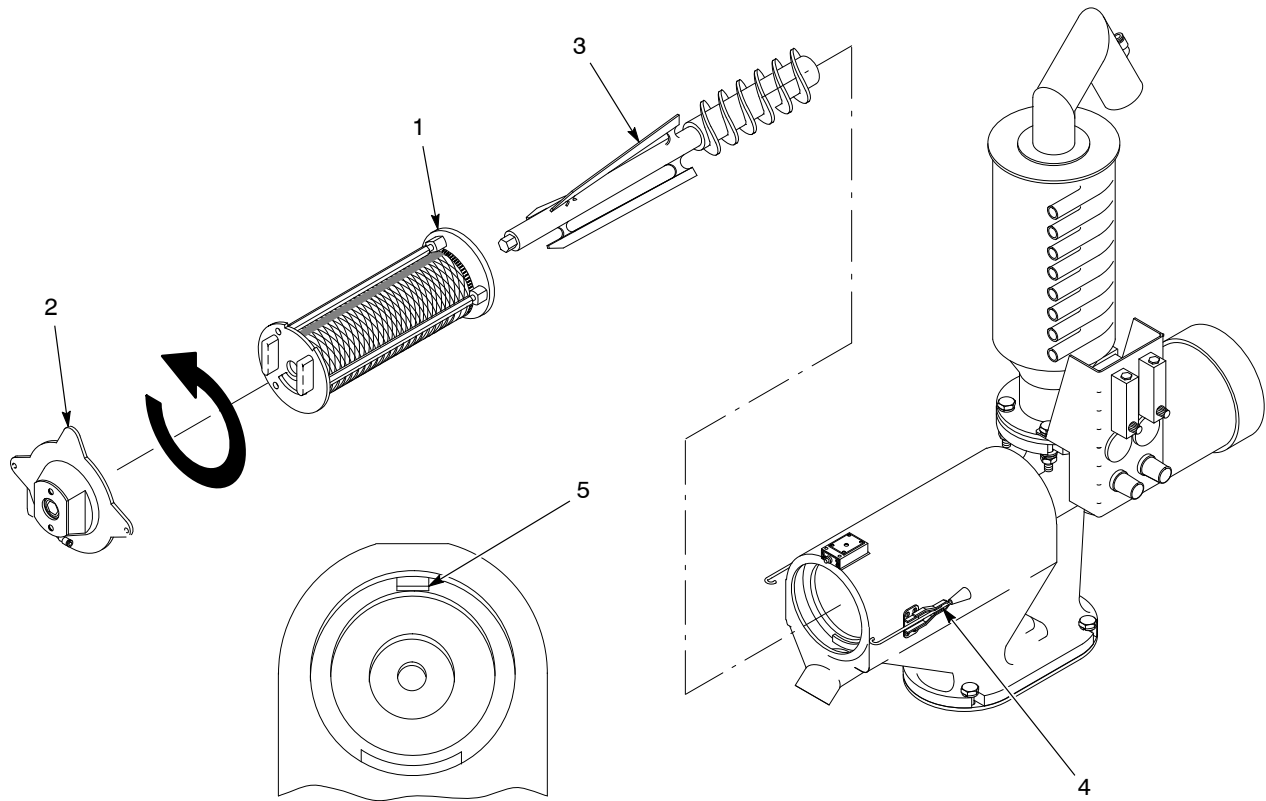

Figure 1 Disassembling the NRPS-100 Rotary Sieve
2. See Figure 1. Make sure the sieve has come to a full stop. Disconnect the purge air tubing from the end door (2).
3. Release the door latches (4) and slide the end door off the rotor (3).
4. Turn the screen frame (1) counterclockwise to release the outlet screen ring from behind the locking block (5).